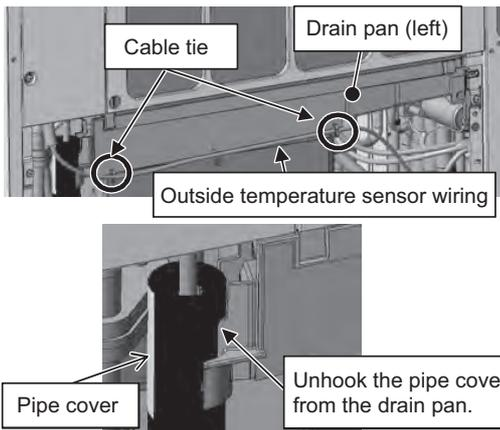

Figure 3
- (2) Remove the external temperature sensor wiring from the left drain pan by cutting the two cable ties. (See Figure 3.)
Unhook the pipe cover from the left drain pan. (See Figure 3.)
Be sure to remove the two rod holders holding the check joints to the drain pan. (See Figure 3.)